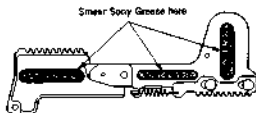

Fig. 3
(1) Replace the L Slider Assembly with a new one and smear Sony Grease to the three longitudinal holes as shown in Figure 3.
(2) Assemble the parts with Removal Steps (8) to (11) in reverse order.